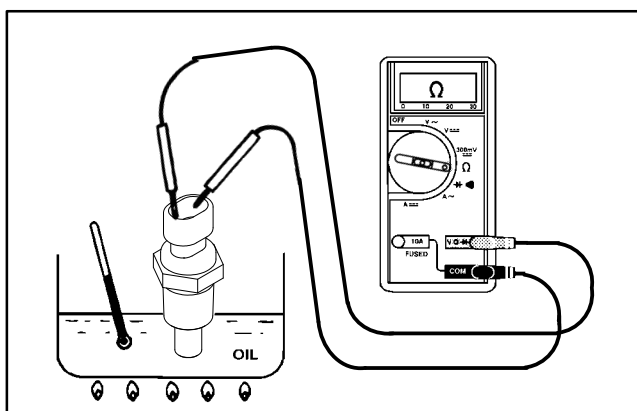

Figure 44
4. Put sender in a container of oil with a thermometer and slowly heat the oil (Fig. 44).